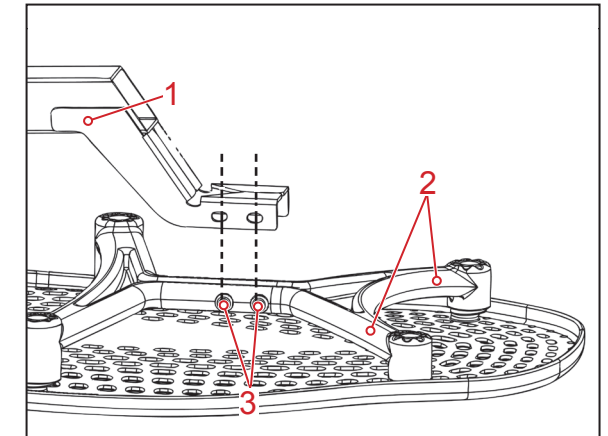

Figure 1
- Place the Table Bed face down on the floor. Push down on the Support Beam so that the two holes align evenly with the holes at the base of the Upper Support Arms (Figure 1).